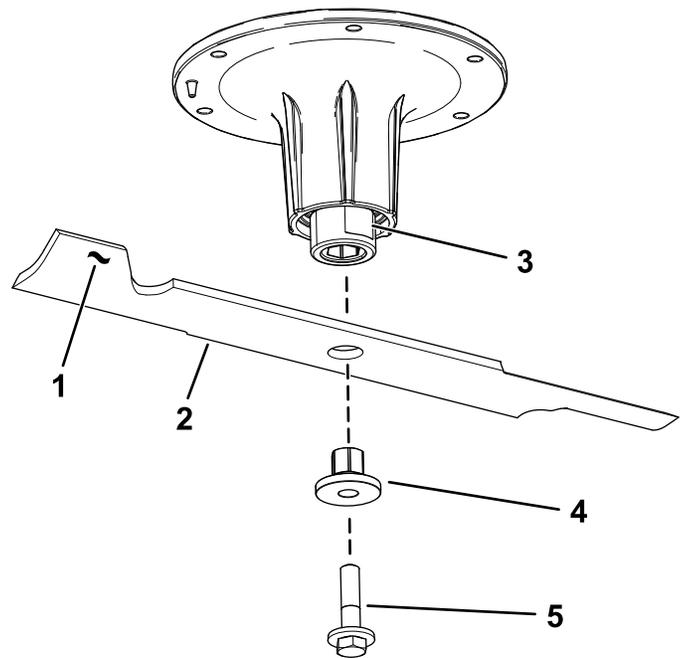

Figure 106
2. Remove the blade bolt, bushing, and blade from the spindle shaft (Figure 106).